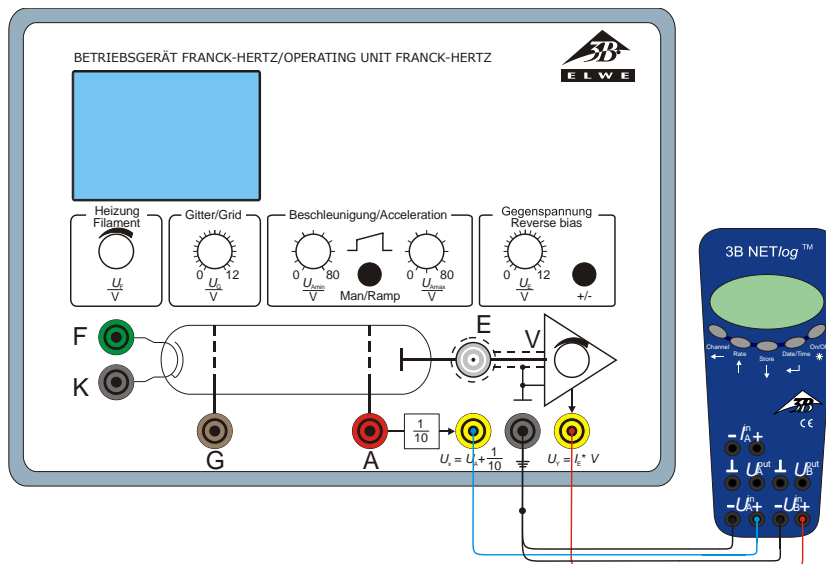

Fig. 6 Connection of 3B NET/log™ to the control unit for the Franck-Hertz experiment
- Connect the 3B NET/log™ unit to the control unit for the Franck-Hertz experiment (see Fig. 6). Connect the U_x output of the control unit to input A of the 3B NET/log™ unit and output U_y to input B.